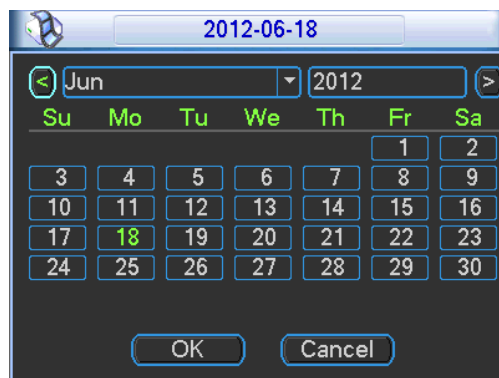

Figure 4-19
- Record types: There are four types: regular, motion detection (MD), Alarm, MD & alarm.
- Holiday setting: Click it you can see an interface shown as in Figure 4-19. Here you can set holiday date. Check the box, it means current channel shall record as your holiday setup.